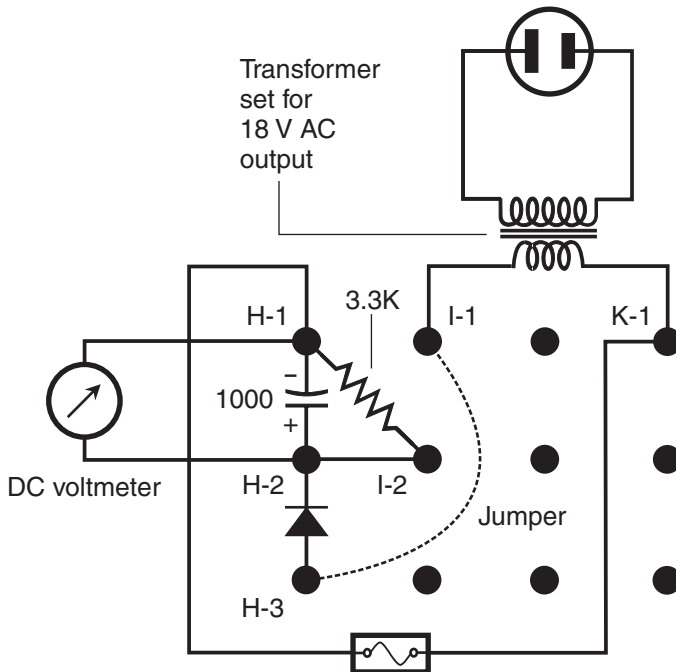

Figure AC8-3 Measurement of the DC voltage from the filtered half-wave power supply with a resistive load. Note the shorting wire between terminals H-2 and I-2.
Remove power from the circuit by switching off the power strip. Place a jumper directly across the electrolytic capacitor, and leave it connected for a few seconds. This action will discharge the capacitor. Remove the discharging jumper and then install a resistor rated at 3.3 kilohms (K) and $\frac{1}{2}$ watt (W) between terminals H-1 and I-2 as shown in Fig. AC8-3. Check the resistor's value with your ohmmeter to be sure that its actual value is "in the ball park." Mine turned out to be 3.24 K. Place a short length of bare copper wire between terminals H-2 and I-2, thereby connecting the resistor in parallel with the filter capacitor.
Switch the power strip back on. The power supply is now working into a resistive load. Set your meter to read DC volts, and measure the voltage across the load as shown in Fig. AC8-3. Has it changed from its value when there was no load? I measured 27.7 V DC with the 3.24-K load, a decrease of 0.8 V, indicating that the capacitor wasn't able to charge up quite as much as before. This